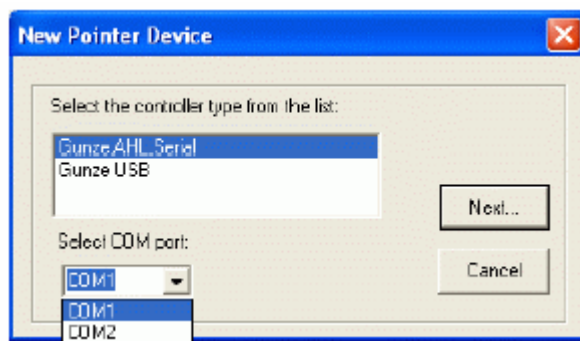

Figure 2
6. For RS-232 Serial connection select "Gunze, AHL, Serial" and the COM port to connect to the touch panel. See Figure 2.